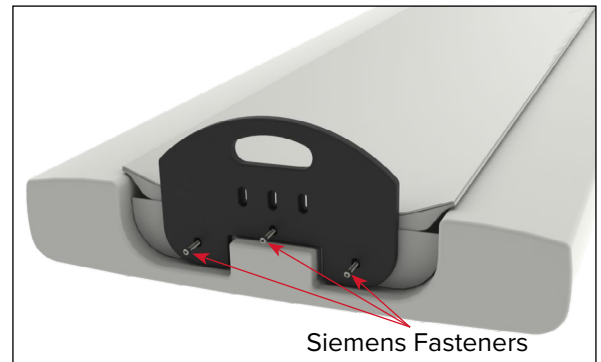

Fig. 2
2. Install Qfix Foot Plate using Siemens fasteners (Fig. 2).